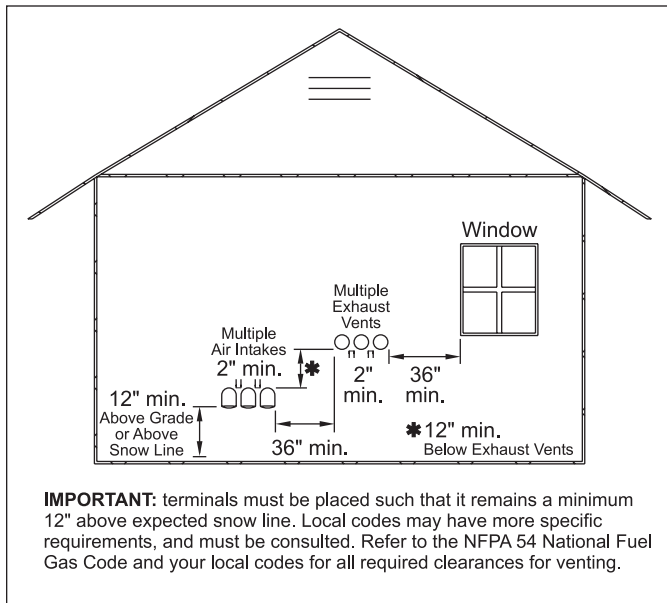

Figure 8. - Multiple Side-Wall Terminals, Air and Vent
As a result, two items listed in the Unpacking section (Figure 8) are **not included** with NeoTherm units for Canada (underlined):
6. Multiple vent kits should be installed such that the horizontal distance between the outlet group and the inlet group is 36" (90cm). (See Figure 8.)